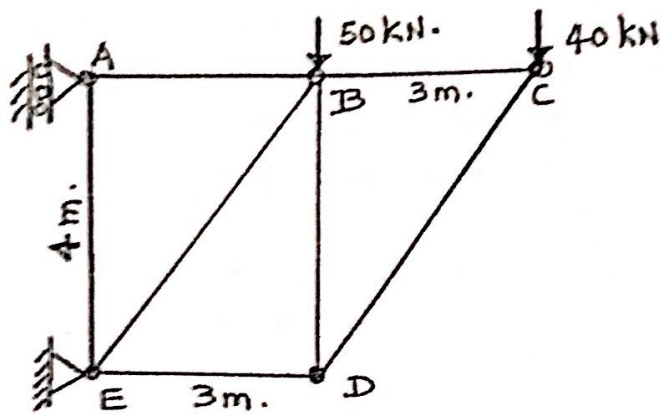

Fig. 11
Using Unit Load Method, find the vertical deflection of joint (C) of a pin-jointed plane truss (Fig. 11). Area of C/S of each member = 1100 mm^2 and $E = 2.1 \times 10^5 \text{ MPa}$.